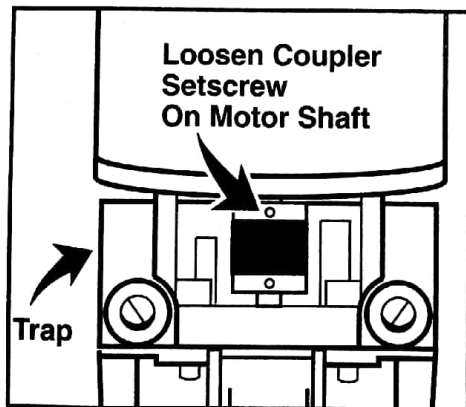
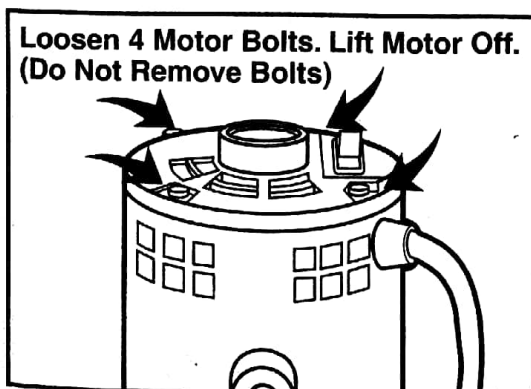

FIG. 2
FIG. 3
2. Turn coupler until set screws are facing you. With 5/32" or 1/8" Allen wrench (depending on model) loosen set screw on motor shaft (**FIG. 2**). Loosen four motor thru bolts (**FIG. 3**). Remove motor. **DO NOT REMOVE BOLTS FROM MOTOR AT ANY TIME.**
3. Loosen set screws on coupler and remove coupling (**FIG. 2**).